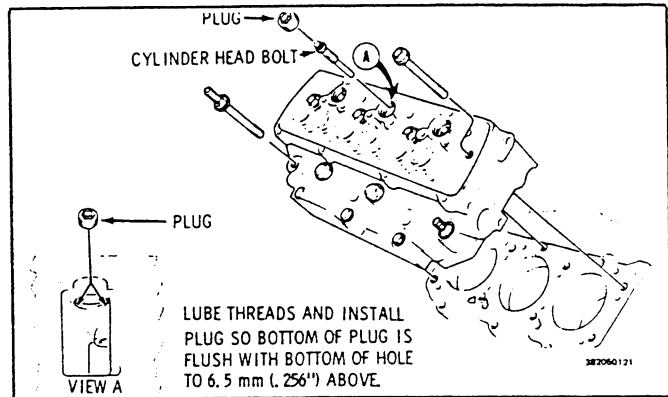

Fig. 23 Cylinder Head Bolts and Pipe Plugs
10. Pipe plugs covering the upper cylinder head bolts (Fig. 23)
2. Install the pipe thread plugs (Fig. 23).